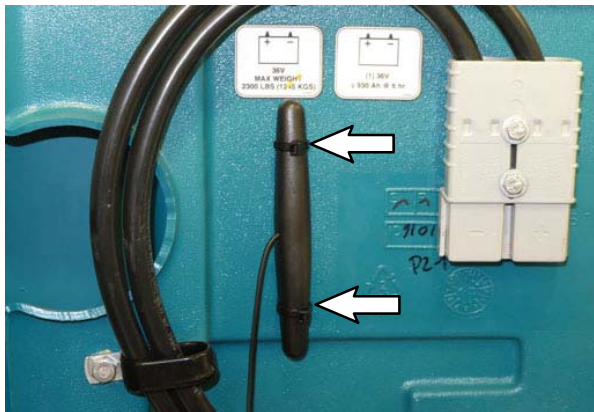

FIG. 19
21. Install a wire tie (17) into the 0.25 in. (6.35 mm) hole and use the wire ties to secure the antenna (16) to the battery compartment cover. (Fig. 19)